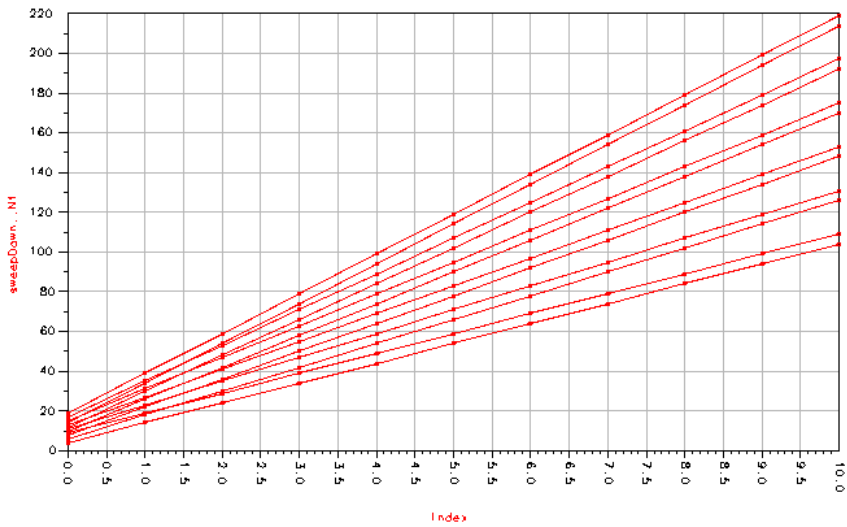

Figure 7-6. Simulation Results of Multidimensional Sweep Example
A total of 6×2 traces are displayed in the Data Display window shown in Figure 7-6. Each line is associated with a downsampling factor (X) for a given phase (Y).